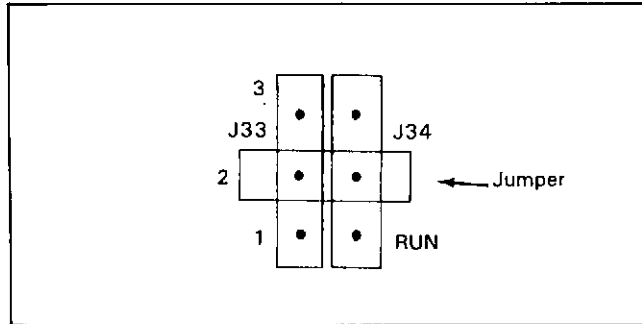

Figure 8-B-2. Jumper A30J33/34 in the 2 Position.
1. Move A30J33/J34 to the 2'' (middle) position, as shown in Figure 8-B-2.